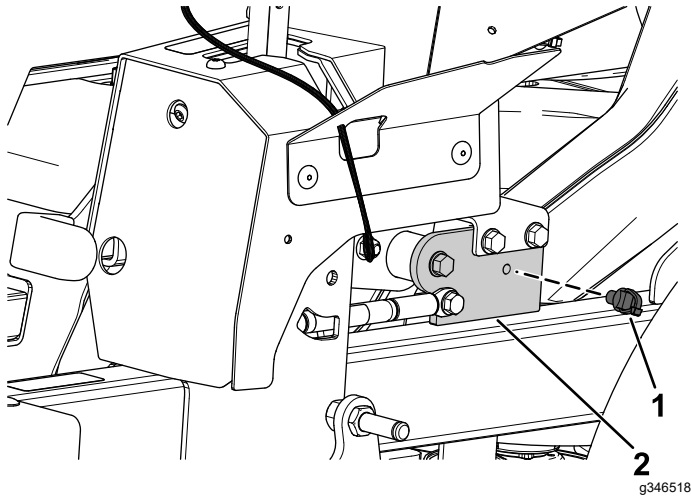

Figure 17
1. Install the front push-mount fastener into the parking-brake lever bracket (Figure 17).